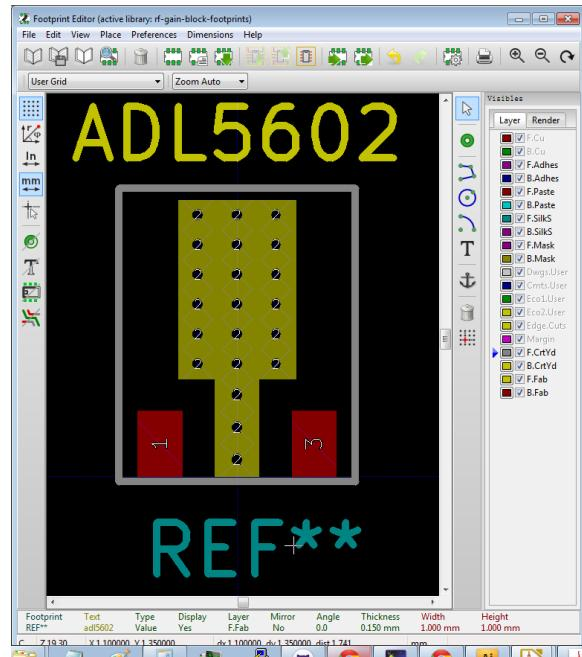

Figure 37: KiCad footprint for ADL5602.
5. The final footprint is shown in Fig. 37. A courtyard outline has also been added.